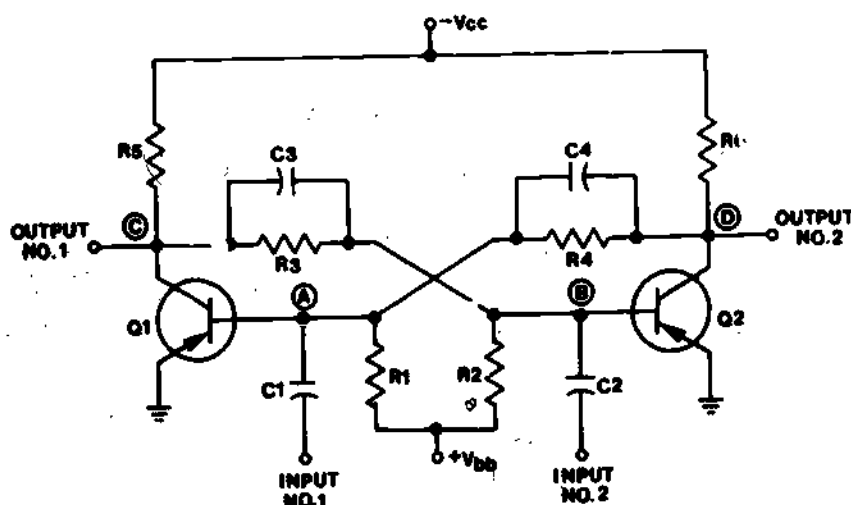

Figure 1
2. Study the schematic of a basic flip-flop shown in Figure 1. It's not as complicated as it first appears.
Refer to Figure 1. Point D is the output of transistor Q2. Notice that point D is connected through R4 and C4 to point A. Point A is the input to transistor Q1.